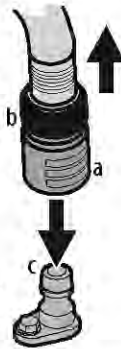

Figure 31
3. Pull back the lock collar (a) of the nozzle adapter (b) and push the nozzle adapter onto the deck wash nozzle (c). Release the lock collar to lock the nozzle adapter on the deck wash nozzle. See Figure 31.